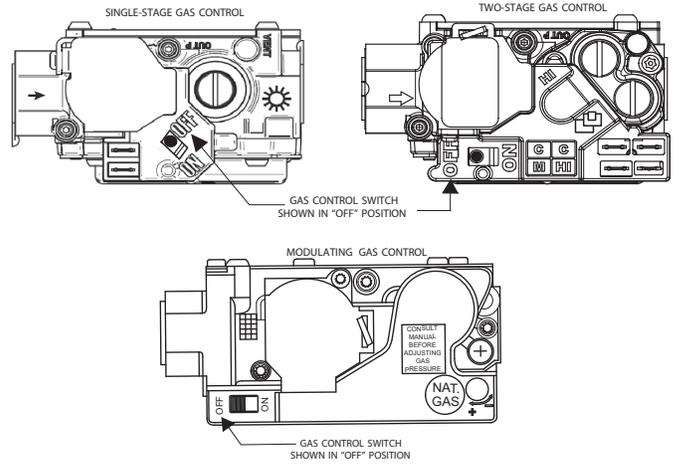

Fig. 11 – Control Switch to OFF
5. Turn the control switch on the gas control to the OFF position and wait five minutes (see Fig. 11). Then smell for gas, including near the floor. If you smell gas, STOP! Follow “B” on furnace label. If you don’t smell gas, go to next step.
- Turn control switch on the gas control to “OFF” position (see Fig. 11).